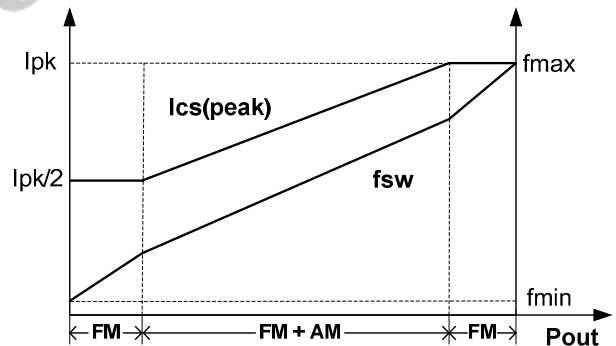

Fig.4
To meet the tight requirement of averaged system efficiency and no load power consumption, a hybrid of frequency modulation (FM) and amplitude modulation (AM) is adopted in JW1501A/B which is shown in the Fig 4.